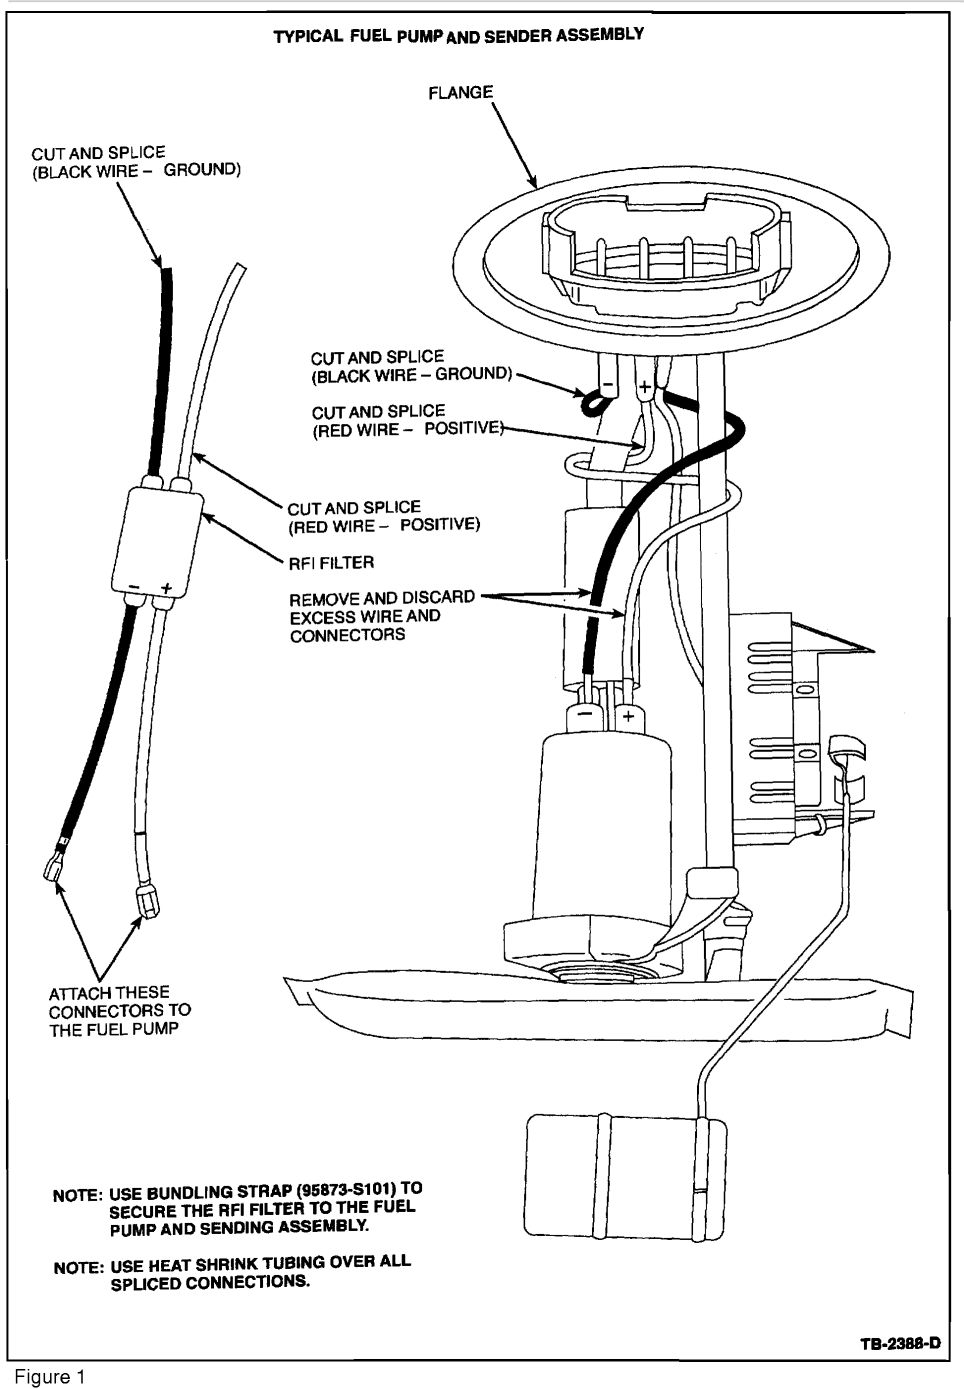

Figure 1
2. On vehicles without a fuel delivery module, remove the negative and positive connectors from the fuel pump, Figure 1.
- 4. Secure the RFI filter to the fuel pump and sender assembly with a Bundling Strap (95873-S101) to prevent rattling in the tank, Figures 1 and 2.